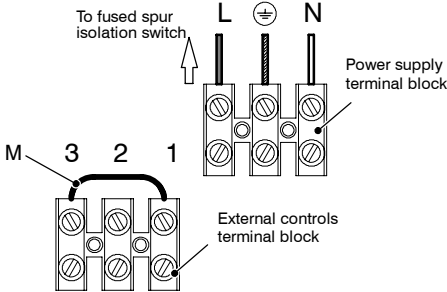

Fig. 6.16
- 6 Connect the electrical supply flexible cord coming from the fused spur isolation switch to the power supply terminal block of the boiler (Fig. 6.16) keeping the same connections for the live (brown wire) and the neutral (blue wire). External 3 A fuse or fused plug with same current rating is recommended. **Do not connect live wires to terminals to which the room thermostat must be connected.**
When connecting any type of external control, the link M in Fig. 6.16 must be removed.